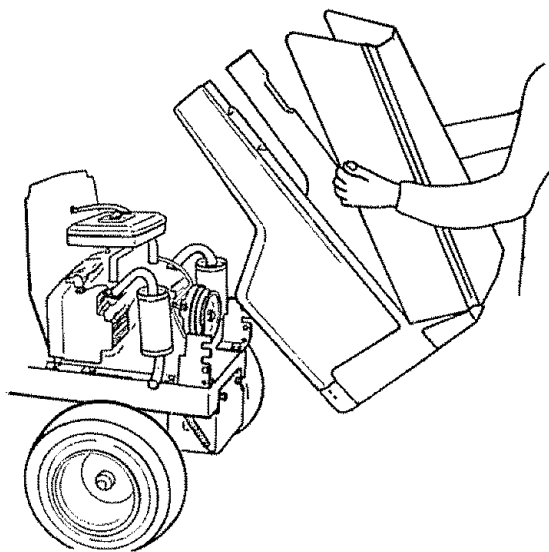

FIGURE 59
- c. Pivot Hood and Side Panel forward and lift off tractor (Fig. 59).